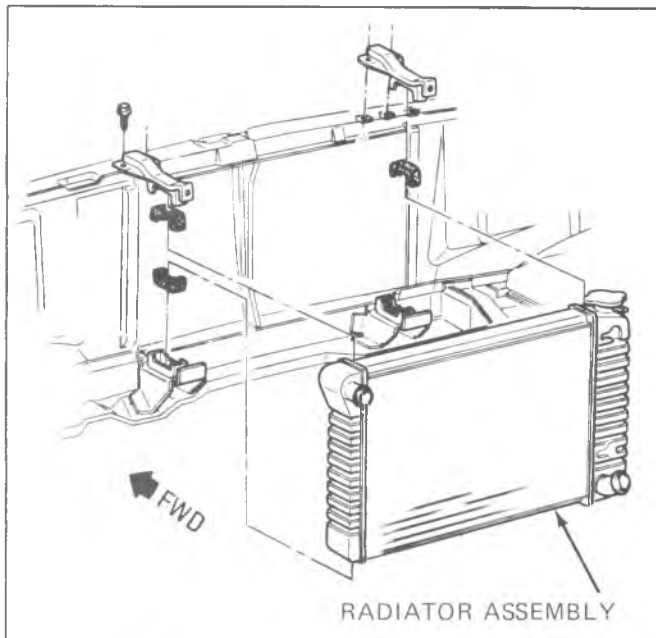

Fig. 6B-6--'G' Van Radiator Mounting
**RADIATOR (FIG. 6B-6 THRU 6B-9)****Removal (G & CK Series)**